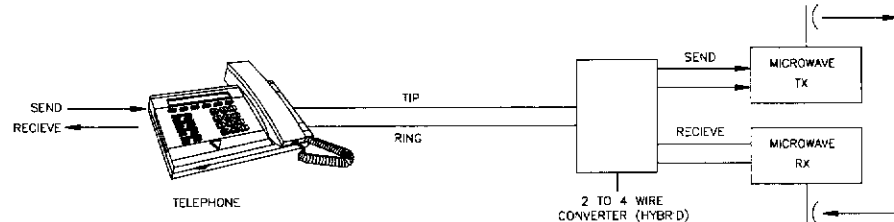

Figure 21. Two wire-to-four wire telephone line conversion
Tip and ring are brought from the local telephone company Central Office (CO) to each user’s telephone equipment (homes, businesses, etc.). When the user’s tip and ring reaches the CO, it is usually two wire-to-four wire converted (Figure 21, below). This means that the send and receive audio is separate so the CO can process the two sources of audio independently. The information is then sent to other COs by a variety of methods including cable, microwave and satellite.
Figure 21 (above) shows how send audio is taken from the two wire-to-four wire converter (hybrid) and is transmitted via a microwave transmitter. In addition, receive audio is taken from the microwave receiver and is applied to the input of the hybrid. The combined communications become tip and ring for processing at the user’s equipment.